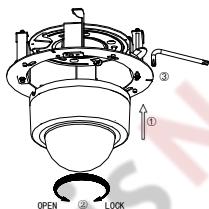

Figure 2-47 Fix the Camera
5. Fix the screws on the side with a screwdriver, as shown in Figure 2-47.